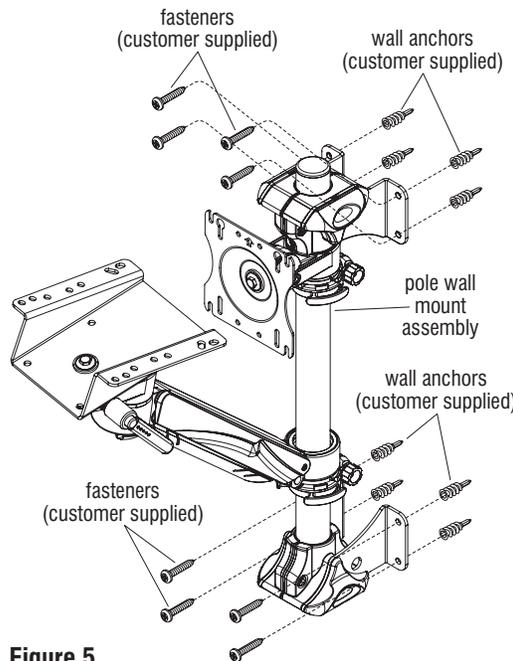

Figure 5
9. Drill correct diameter holes into wall as specified by customer supplied anchors/fasteners, then install fastening devices appropriate to the wall (Figure 5).
10. Line up the mounting holes of the brackets with anchors and secure pole wall mount assembly to wall (Figure 5).